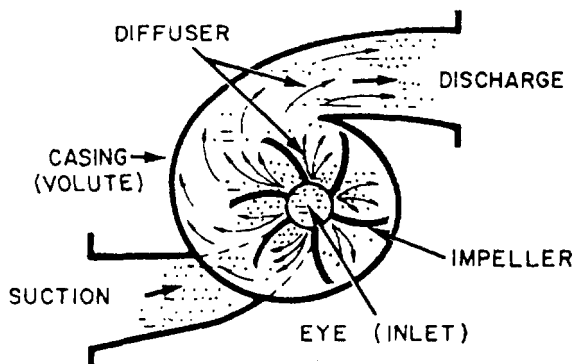

Figure 9-3.—Centrifugal pump flow.
**OPERATION.**— Liquid enters the rotating impeller on the suction side of the casing and enters the eye of the impeller (fig. 9-3). Liquid is thrown out through the opening around the edge of the impeller and against the side of the casing by centrifugal force. This is where the pump got its name. When liquid is thrown out to the edge of the casing, a region of low pressure (below atmospheric) is created around the center of the impeller; more liquid moves into the eye to replace the liquid that was thrown out. Liquid moves into the center of the impeller with a high velocity (speed). Therefore, liquid in the center of the impeller has a low pressure, but it is moving at a high velocity.